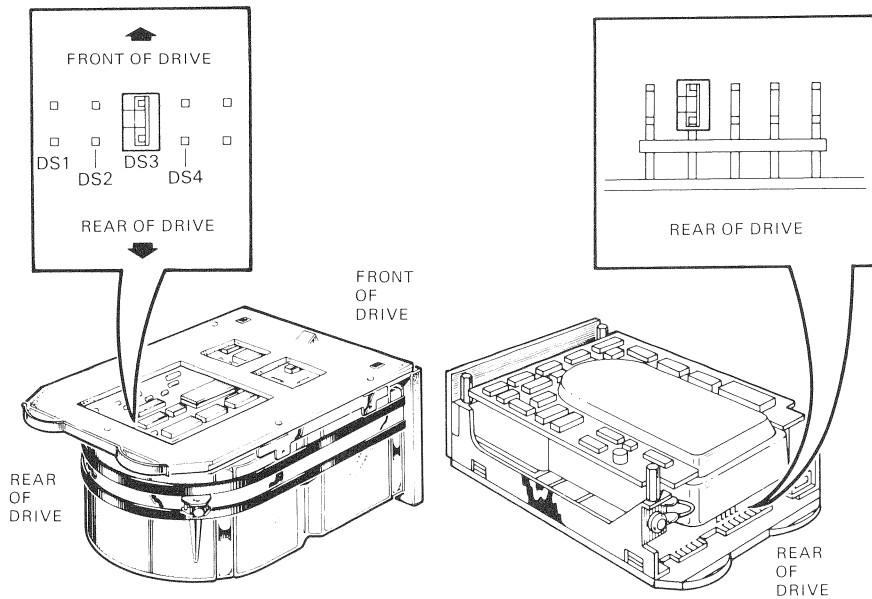

Figure 10-8 RD52 Jumper Clip Setting
1. Make sure the jumper clip on a replacement RD52 fixed-disk drive is set to match the one you removed (Figure 10-8). Do not install a jumper clip on DS0; this setting is reserved for RX50 diskette drives.